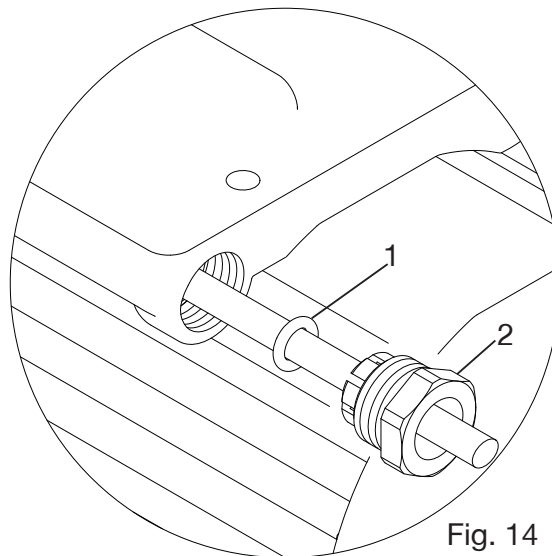

Fig. 14
To enable correct assembly of the cable gland the 'O'-ring (Fig. 14 item 1) must be placed over the cable before the clamping insert (Fig. 14 item 2) can be tightened.